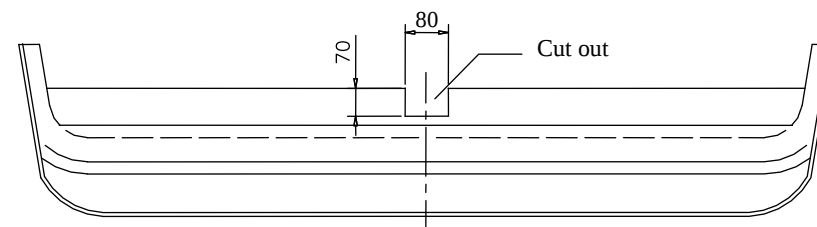

Fig. 2
3. On the left and right side put to chassis members brackets (pos. 4 and 5) in this way so elongated holes tally with plastic pin protruding from floor and next through holes (pos. A, B, C) drill holes $\varnothing 11\text{mm}$.
4. Bracket (pos. 5) screw through hole (pos. C) using washers (pos. 9) and bolts M10x30mm (pos.8).
5. Put main bar of towbar (pos. 1) to mounted brackets (pos. 4 and 5), through holes (pos. A and B), washers and plates (pos. 6) screw with chassis member using bolts M10x50mm (pos. 7) from towbar accessories.
6. Through holes (pos. D) drill holes $\varnothing 11\text{mm}$ and next screw with bolts M10x30mm – pos. 8 (use washers $\varnothing 35 \times \varnothing 12 \times 3\text{mm}$ – pos. 9).
7. Fix body of the automat and place tow-ball according to supplied instruction. Note! Remember to place socket plate (pos. 3) as shown on the drawing 1.
9. In central part of the bumper cut out fragment 70x80mm as shown in the fig. 2.